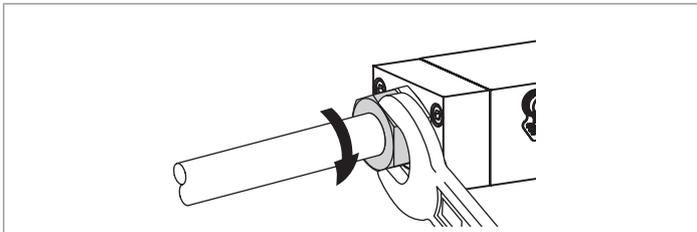

Fig. 15: Nut tightened with an open-end spanner
- Tighten the nut with an open-end spanner to a torque of 25...28 N·m, that is 18.44...20.65 lbf·ft. See Fig. 15.